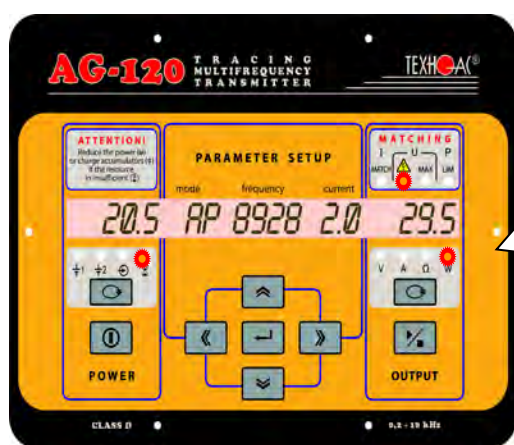

Fig. 11.13
To achieve the maximum intensity of the «induction», the buried utility line and antenna frame must be located as close as possible to each other and in **a single plane**. Prior to connection of the frame to the output turn off the power in the “stop” mode with power button pos.2 « $\text{I}$ » figure 11.13 or with external mechanical switch.